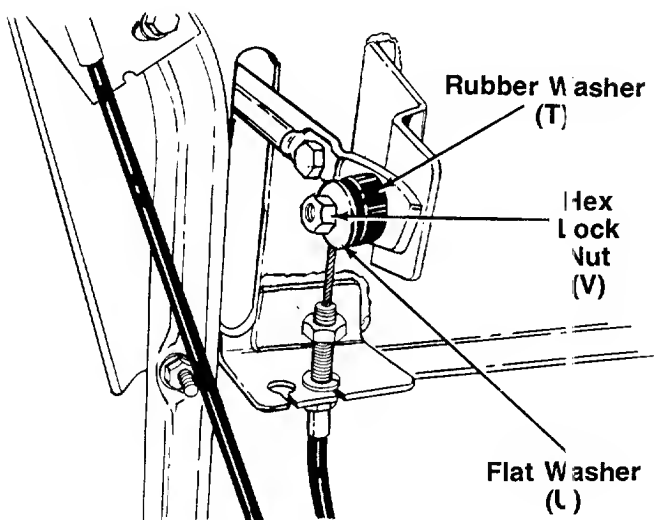

FIGURE 14.
6. Secure reverse drive clutch lever to weld bolt with rubber washer (T), flat washer (U) and hex lock nut (V). See figure 14. Tighten hex lock nut until snug. Do not overtighten.